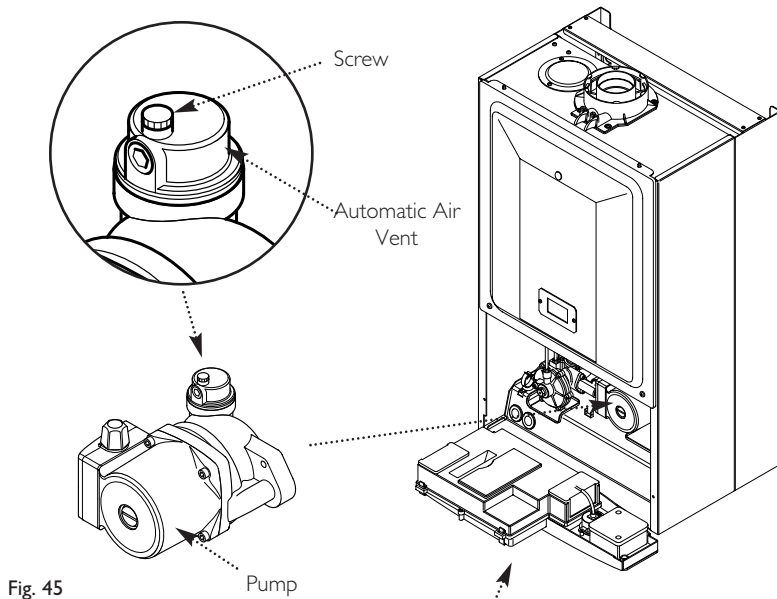

Fig. 45
5. Open the screw on the automatic air vent (Fig. 45).